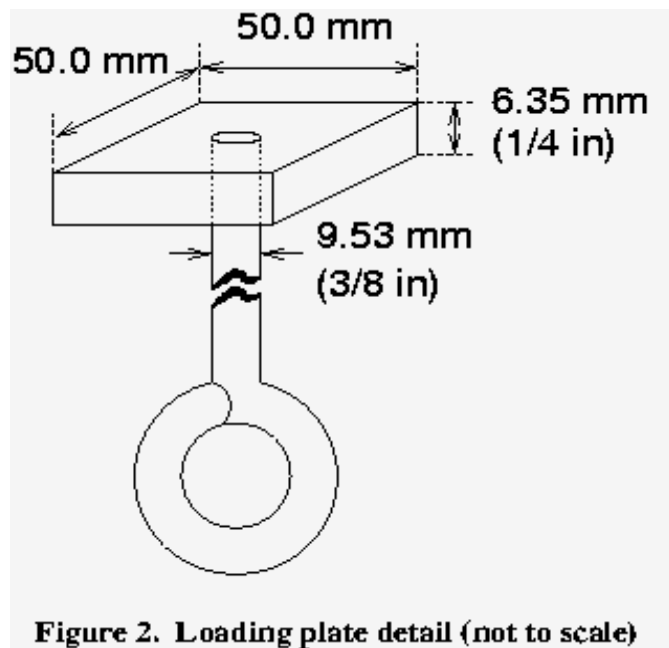

Figure 2. Loading plate detail (not to scale)
- The load will be applied by means of a 50 mm square plate that is 6.35 mm (1/4 inch) thick (see Figure 2). A 9.53 mm (3/8 inch) diameter eyebolt is attached from below to the center of the plate. The plate must be horizontal when it rests on the loading plane. Masses will be supported on a vertical loading rod suspended from the eyebolt.